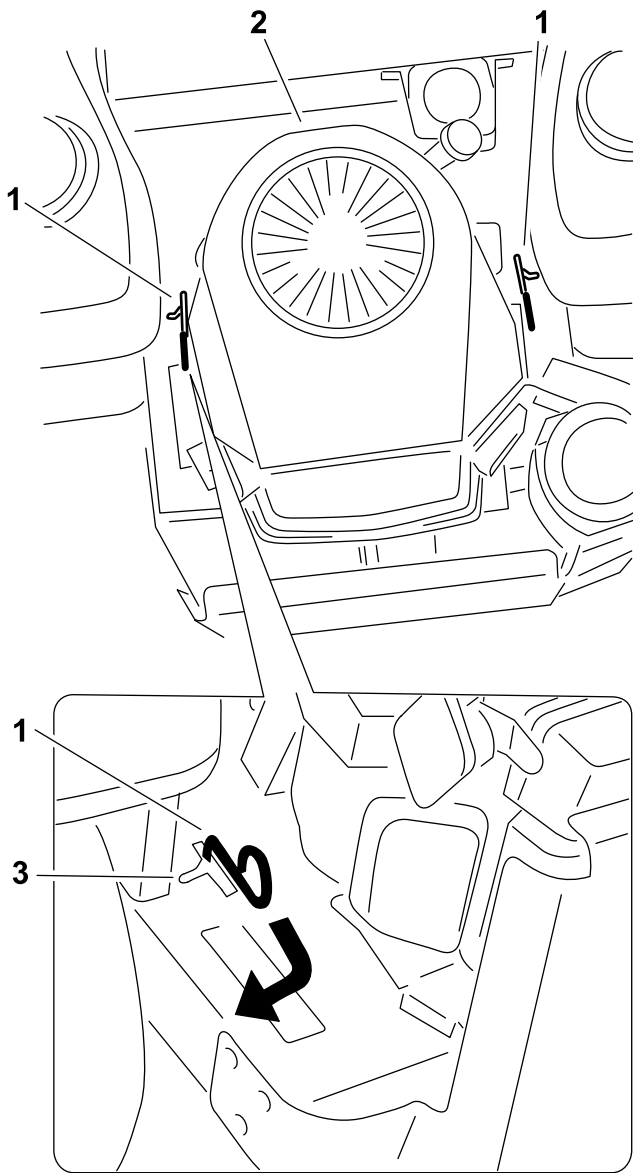

Figure 20
3. Pull the two bypass levers rearward and push them to the outside into the slot to lock them into place. (Figure 20).
Push each bypass lever to the inside and push them forward (Figure 20).